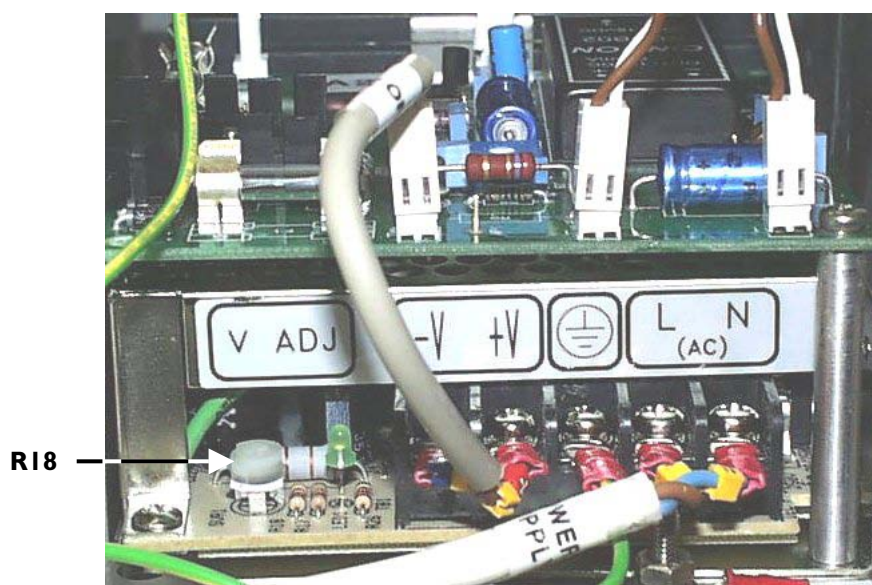

FIGURE 7.3.1a
Step 3: Adjust slowly on the power supply varistor R18 until the voltage between the measure point MP1 and F1 become 16.3VDC (± 0.3 VDC). See figure 7.3.1a